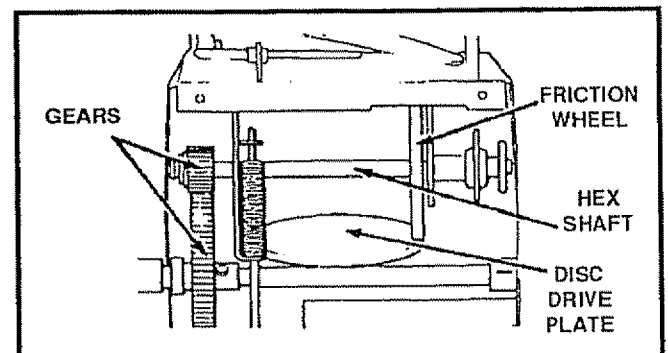

FIG.17
- Hex Shaft and Gears - Hex shaft and gears require no lubrication. All bearings and bushings are lifetime lubricated and require no maintenance (See Fig. 17).
NOTE: For storage, the hex shaft and gears should be wiped with 10W-30 motor oil to prevent rusting (See Fig. 17).